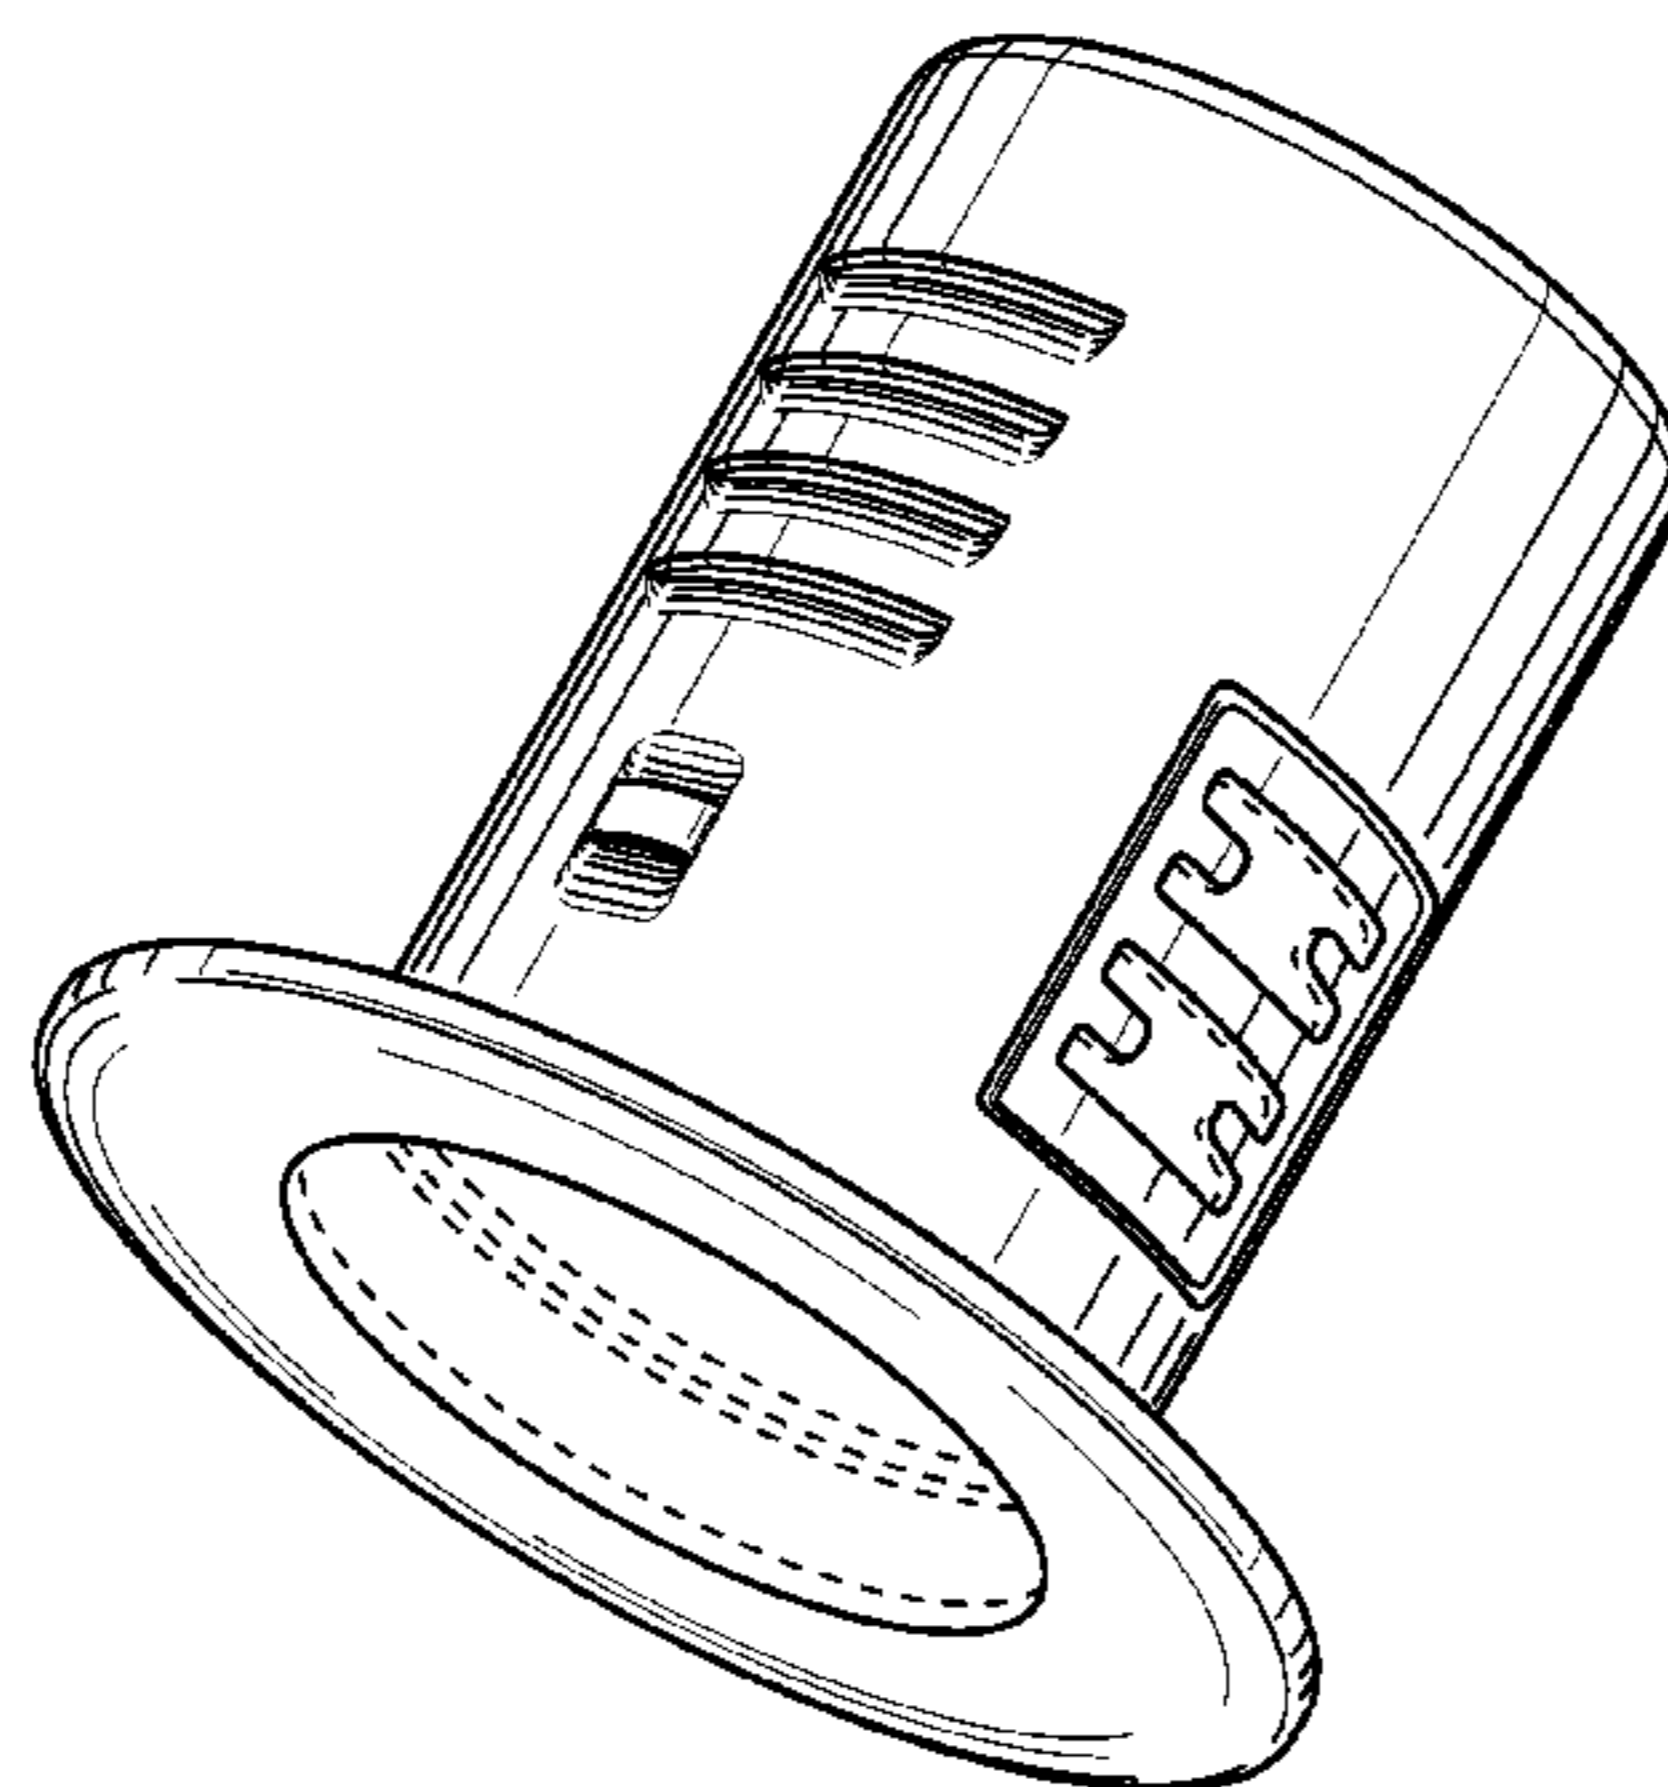
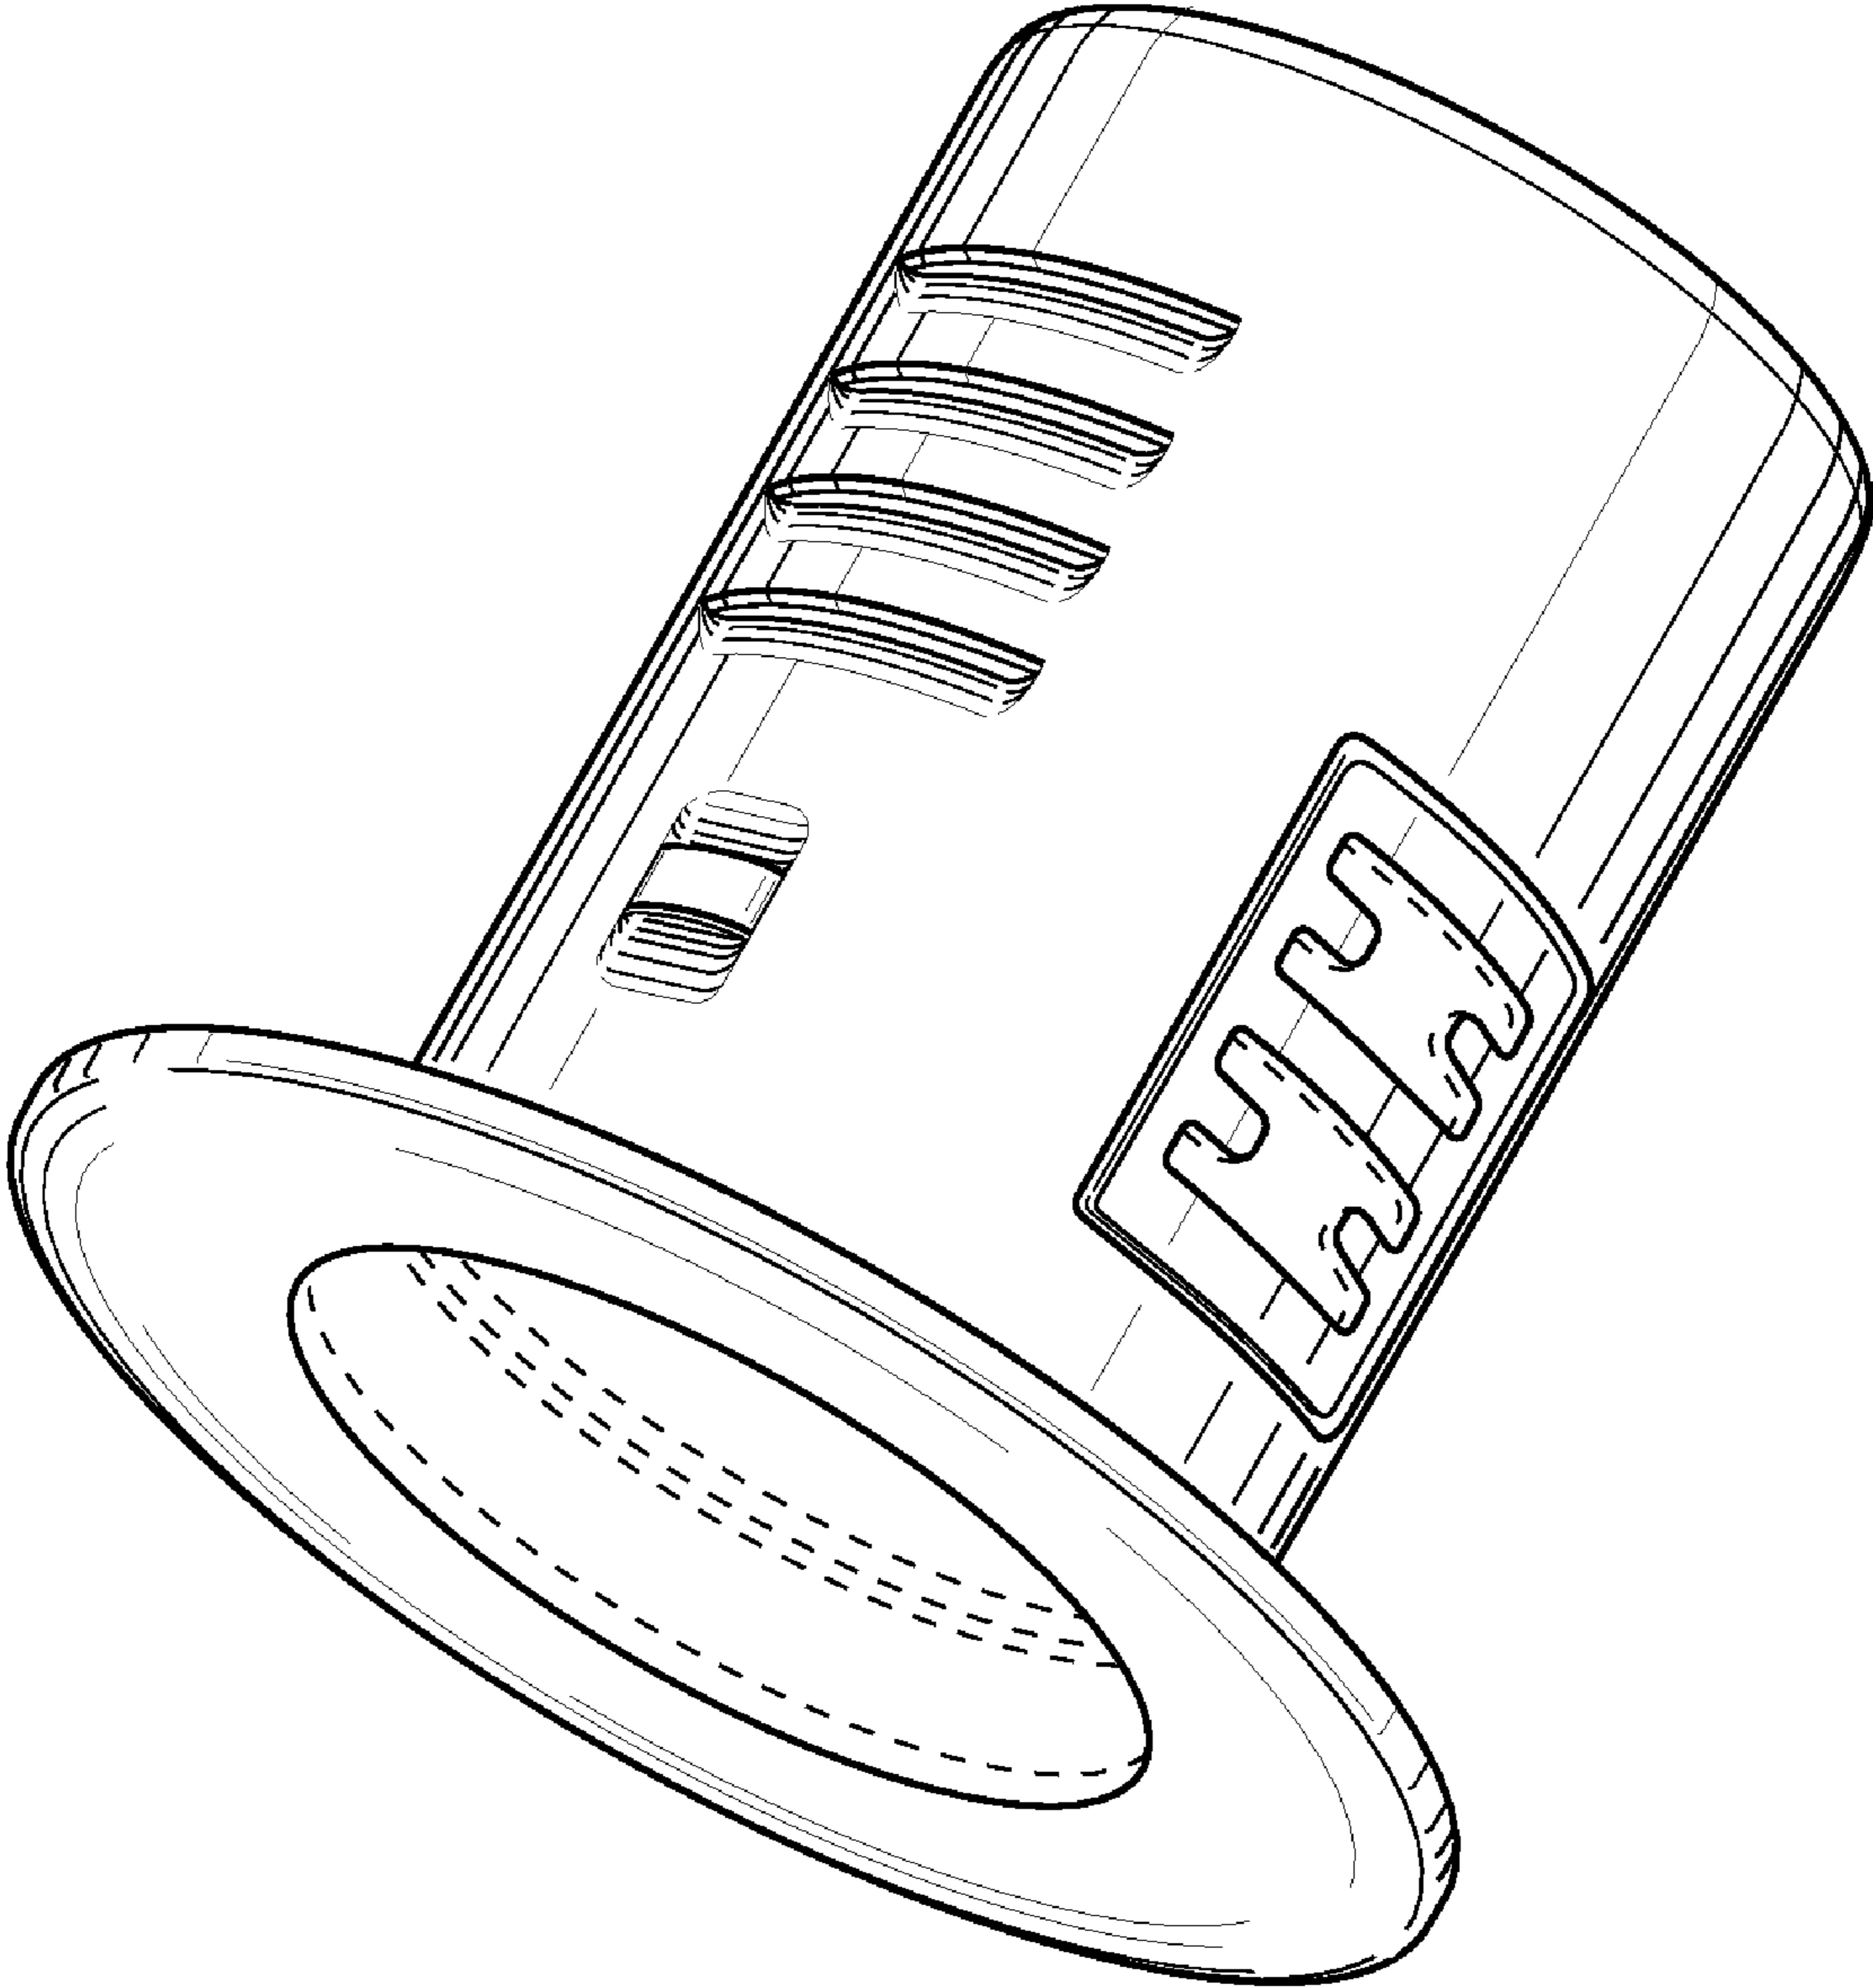
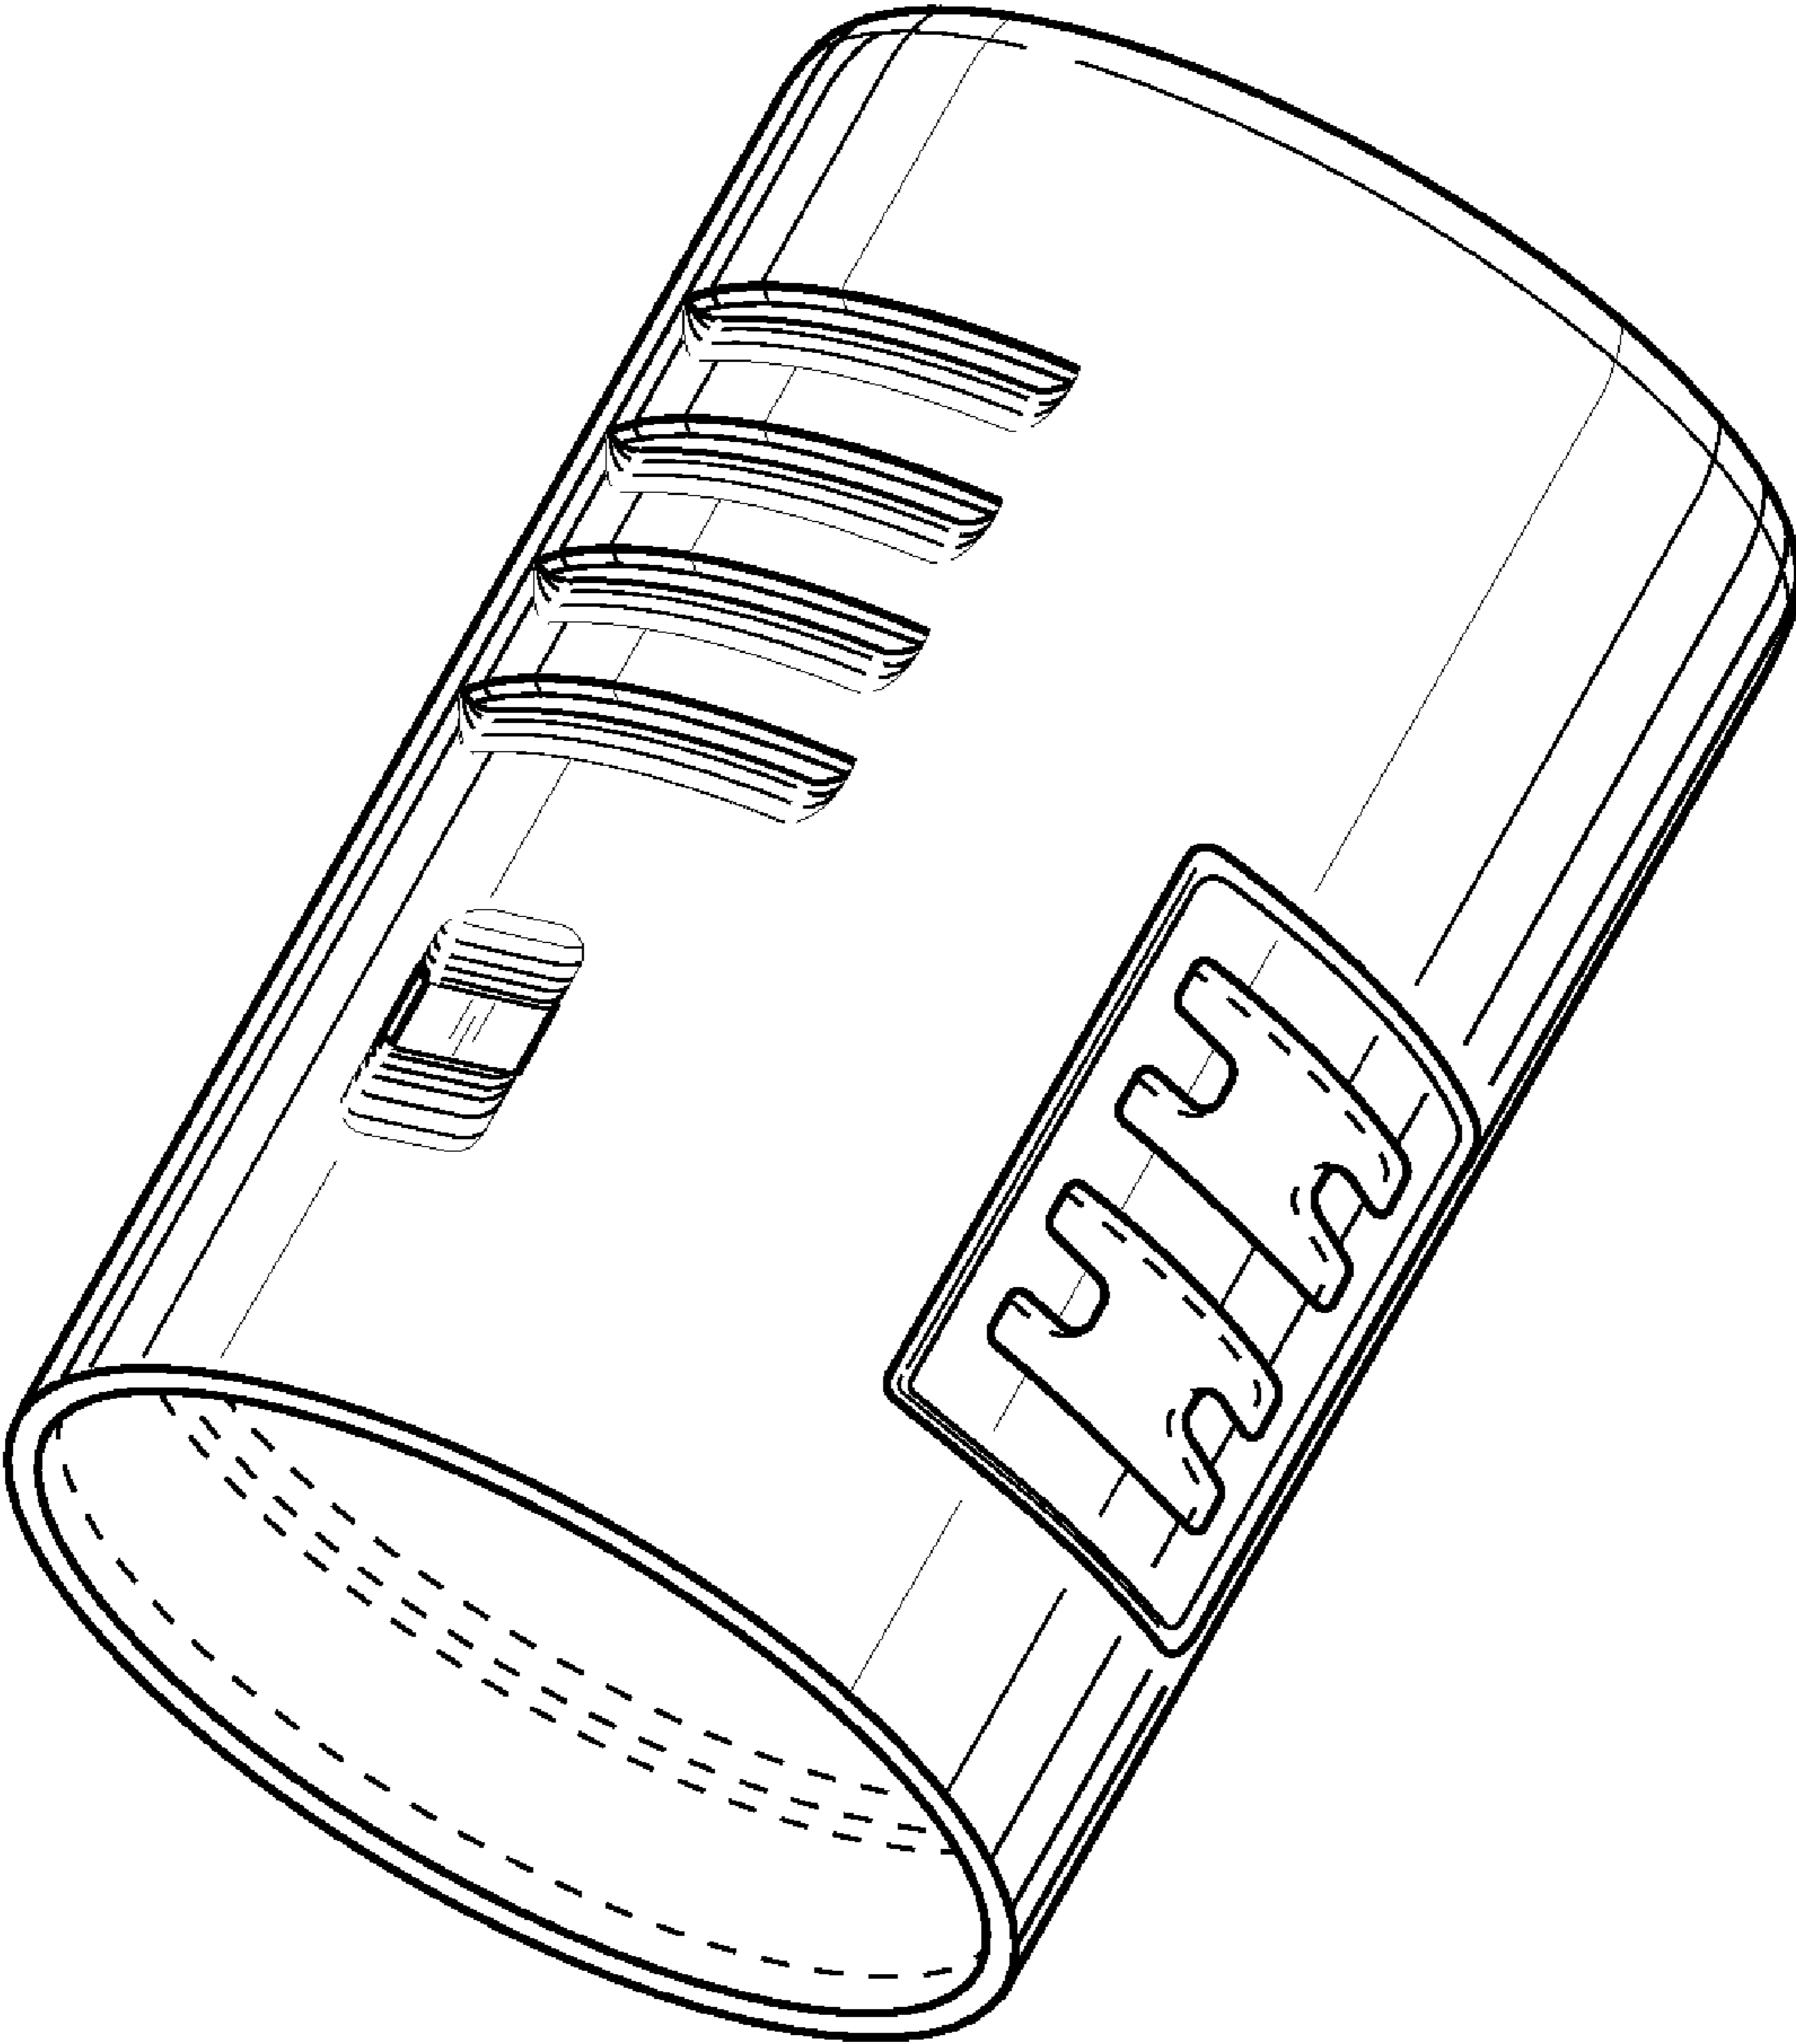

FIG. 1
FIG. 6
FIG. 11
- FIG. 1 is a plan view, from the top, of a lighting fixture showing my new design;
- FIG. 6 is a plan view, from the top, showing the housing of the lighting fixture in FIG. 1, shown separately for clarity of disclosure;
- FIG. 11 is a plan view, from the top, showing the trim of the lighting fixture shown in FIG. 1, shown separately for clarity of disclosure;